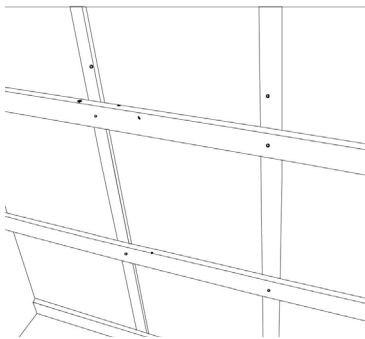

Figure 1
1. For installation on wall with furrings (Figure 1).